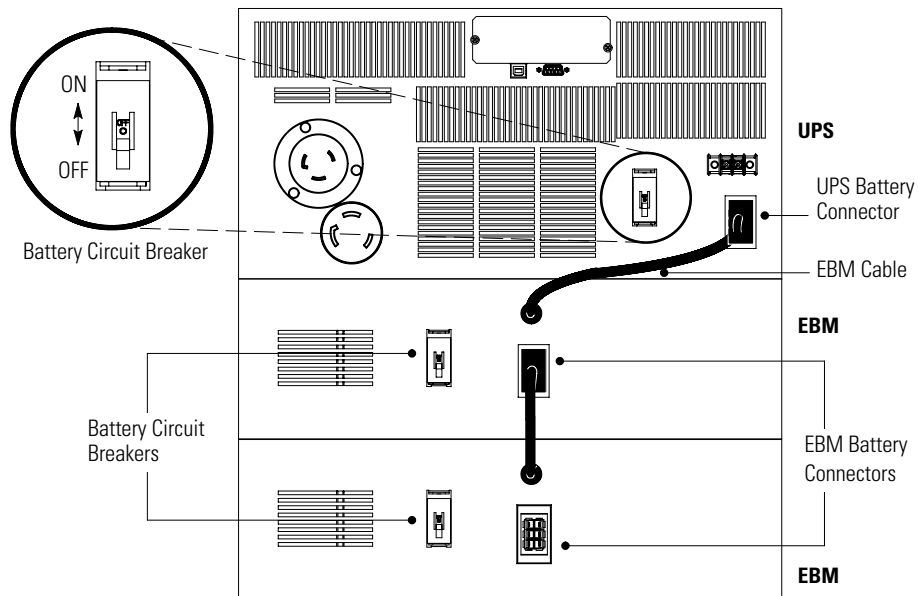

Figure 9. Typical EBM Installation
1. Verify that the battery circuit breaker on the UPS rear panel is in the OFF position (see Figure 9 on page 20).
1. Verify that all battery circuit breakers are in the OFF (O) position (see Figure 9).